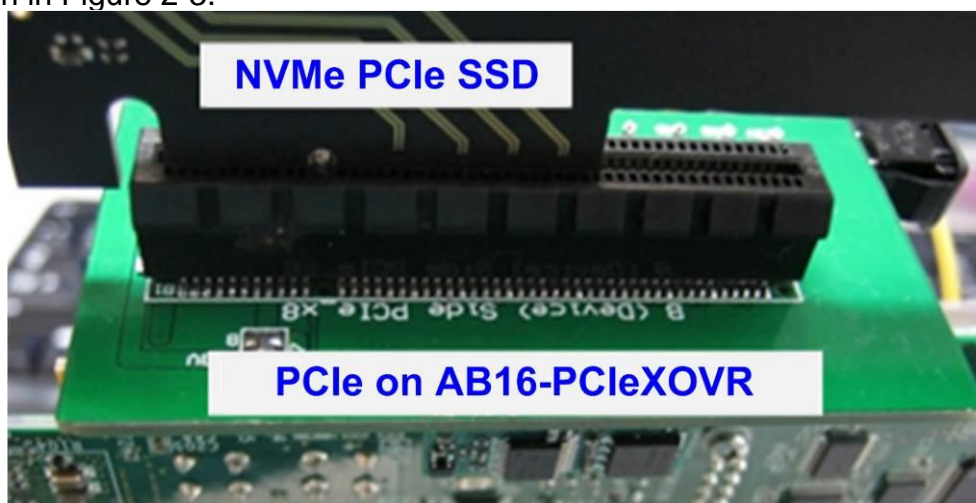

Figure 2-3 Connect NVMe PCIe SSD to AB16 board
- Connect NVMe PCIe SSD to B Side of PCIe connector on AB16-PCIeXOVR board as shown in Figure 2-3.